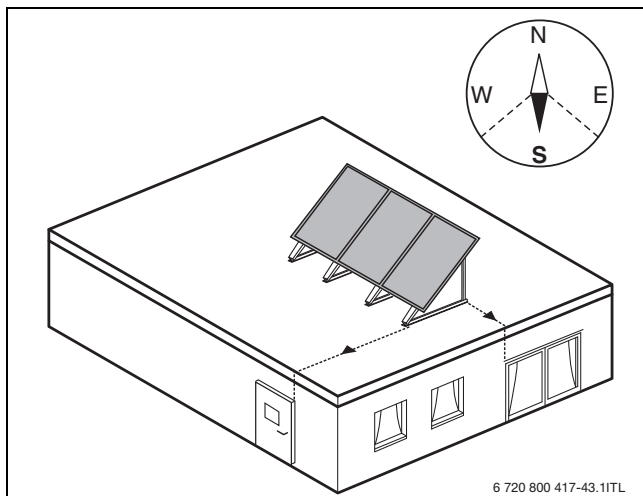

Fig. 9 Aligning collector array
- Align the collector array facing as close to north as possible (→ Fig. 9).
- Align the collector array so that it is in line with windows, doors etc. (→ Fig. 9).